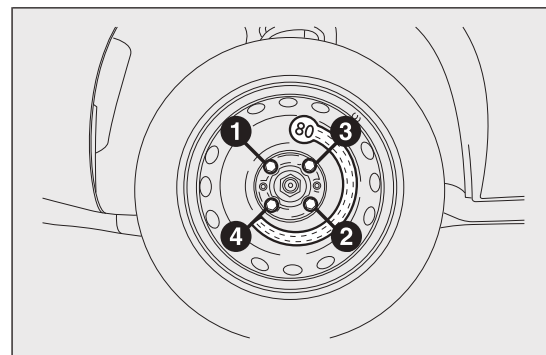

fig. 129
- use the wrench provided to fully tighten the bolts, passing alternately from one bolt to the opposite one, as per the numerical sequence illustrated in fig. 129.
- using the wrench provided, fully tighten the bolts in the sequence shown in diagram fig. 129;
- using the wrench provided, fully tighten the bolts in the same sequence shown previously for the space-saver wheel (see fig. 129);